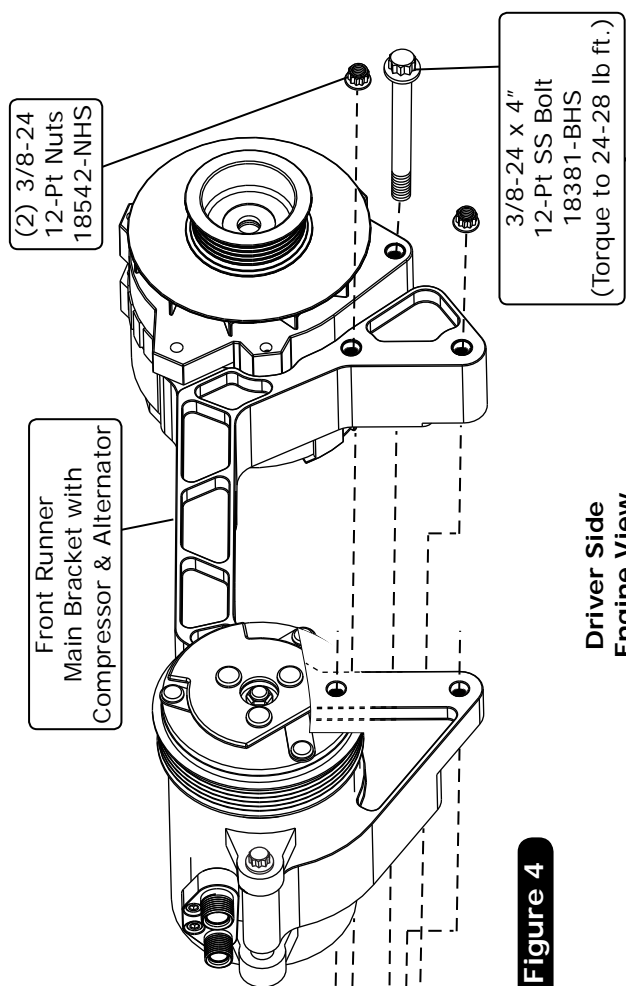

Figure 4
1. Slide the Front Runner main bracket assembly over the water pump mounting studs (See Figure 4, Page 9).
2. Secure the driver side of the assembly using (2) 3/8-24 12-Pt nuts (See Figure 4, Page 9).